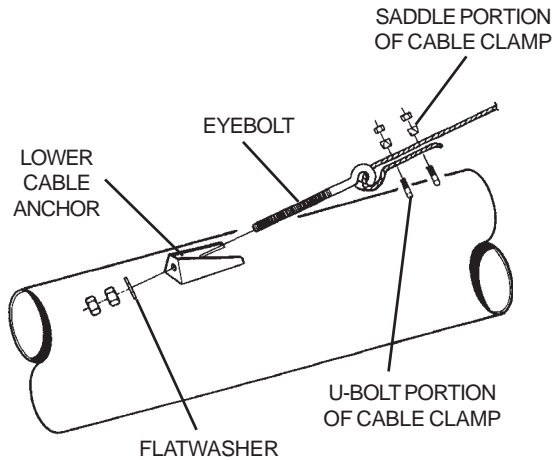

FIG. 33A
Step 4. Install eyebolts into the six lower cable anchors with eyes toward discharge end of auger. Use two nuts on each eyebolt. See Figure 33A.
Step 10. Attach truss cables to eyebolts (from Step 4) using two 1/4" cable clamps per each cable. NOTE: Secure clamp with u-bolt against loose end of cable. See Figure 33A.